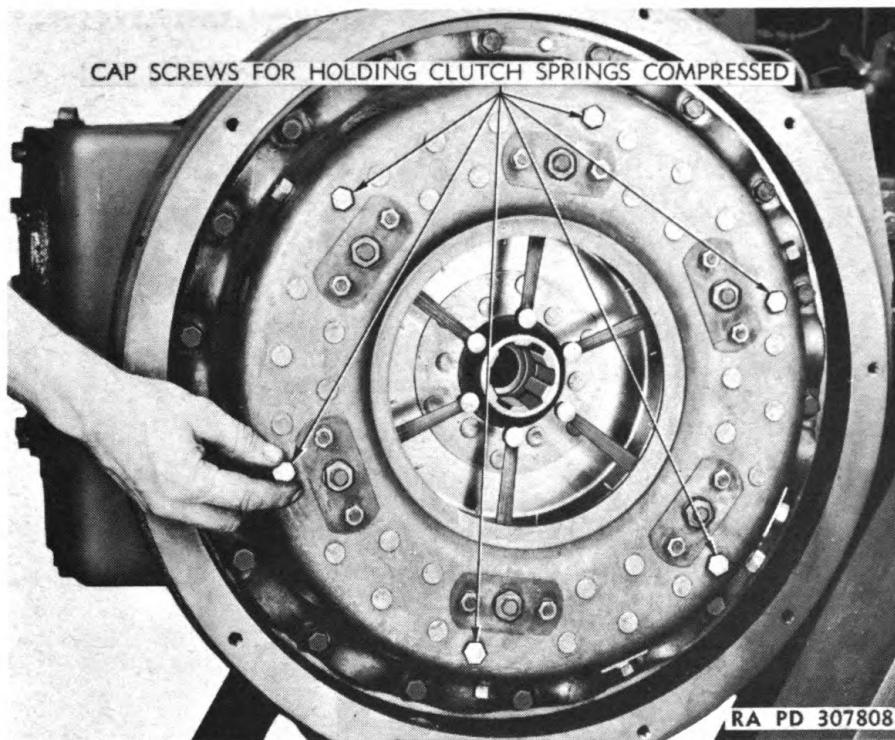
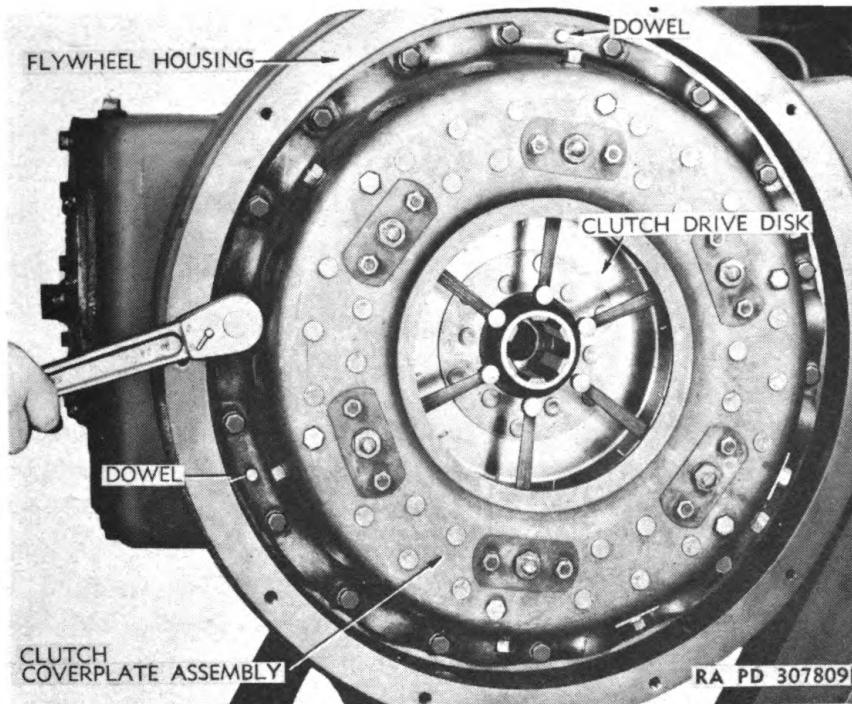

Figure 4 — Installing Cap Screws To Hold Clutch Springs Compressed
Figure 5 — Removing Clutch Assembly
c. Remove Master Clutch Assembly. Insert six $\frac{3}{8}$ - x $1\frac{1}{2}$ -inch NC cap screws through holes in clutch coverplate and screw them into tapped holes in bosses of pressure plate (fig. 4) until the heads of the cap screws are against coverplate. These are to hold clutch springs compressed while clutch is removed. Remove the 18 cap screws attaching clutch assembly to flywheel and remove clutch cover plate and pressure plate assembly (fig. 5). Clutch drive disk will be removed at same time. Do not lose small coverplate dowels which may pull out of flywheel with coverplate.